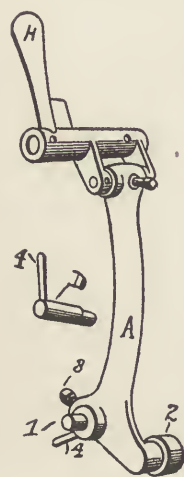
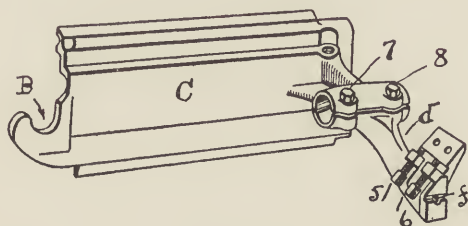
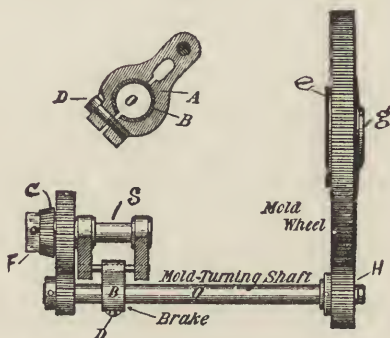

FIG. 20.
FIG. 21.
FIG. 22.
"All right," replied the Machinist. "Come around to the back of the machine and I'll explain. This lever (*A*, Fig. 20) carries two rollers (1, 2), the front one
fitting in the depression (*B*, Fig. 21) of the mold slide (*C*), while the back roller (1) works in the groove of the gear cam. This connects the mold slide to the cam and causes the former to advance and retreat as demanded. The adjustment I speak of is in the back roller, the pin of which (*D*, Fig. 20) is an eccentric.
"Well," the Machinist replied, "as a rule it is not necessary to do so, but if the mold-disk stud is not properly oiled and runs dry the stud will become galled and bind so that the disk can not turn. There is a good deal of heat near this bearing, so it will get dry if not watched. The mold wheel or disk can be removed by taking off the mold-disk guide (*f*, Fig. 21) when the mold slide is pulled forward, and with a piece of brass driving the mold stud-nut (*g*, Fig. 22), to the left to loosen and remove it, when the mold wheel will come off easily enough. If the mold stud has been galled it must be removed and smoothed with emery cloth; then cleaned and oiled and replaced. Tighten up the back screw (*7*, Fig. 21) so the stud can not slip when you put the disk back on the stud, and after putting the stud-nut on again you can loosen the back screw until the disk spins freely and truly; replace the disk guide, and there you are. Now, don't take off the mold wheel every time it appears to be binding. Find out first if it is the disk that is stuck. If it can not be turned by hand when the mold-turning pinion (*H*) is drawn out of mesh, that will locate the trouble in the mold wheel, but it may be that metal has run in between the flange on the disk (*e*, Fig. 22) and the arm (*d*, Fig. 21), or between the disk and the ejector guide, and is thus preventing the mold disk from revolving. If it is the latter condition which is causing the trouble, it may be
"While I'm at it," continued the Machinist, "I'll show you how the mold disk is revolved by the mold-turning cam (No. 2). Take off the guard which covers the gearing and you can see the whole works. This square block (*F*, Fig. 22) lays against the inside surface of the cam. When the cams revolve, the toothed seg-
"What is this other arrangement (*B*, Fig. 22) for?" asked the Operator.